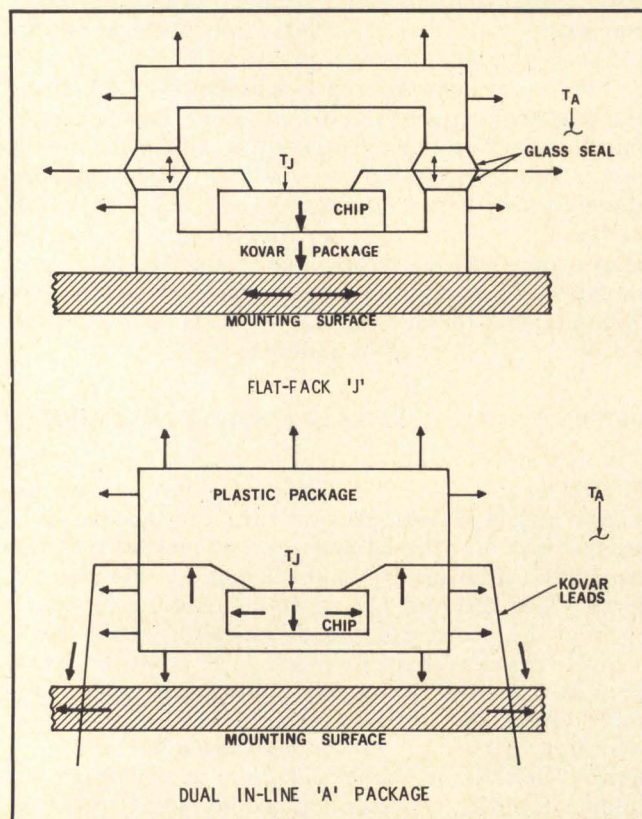

Fig. 11 Schematic Representation Of The Heat-Flow Paths For The 'J' And 'A' Packages.
Figure 11 shows the heat flow through both the flat-pack (J) and the dual-in-line (A) packages. The conduction paths through the leads of the DIP are more significant than in the flat package, since more homogeneous package material is in contact with these leads. However, convection is still a very important means of heat transfer from the DIP and this fact should be kept in mind when designing mounting assemblies for these devices.